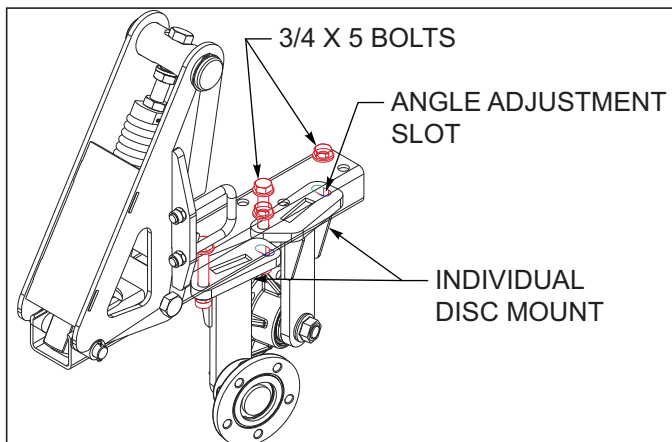

Figure 4-15: Individual Disc Angle Adjustment
4. Each individual disc can be adjusted to 3 different angle settings to allow more or less soil movement **See Figures 4-15**. To adjust them, loosen the front 3/4 x 5 bolt, and remove the rear 3/4 x 5 bolt to rotate the mount either direction. The discs are in the middle position when shipped from the factory. Ground speed and depth will both change how the finish looks, they will have to be adjusted accordingly.